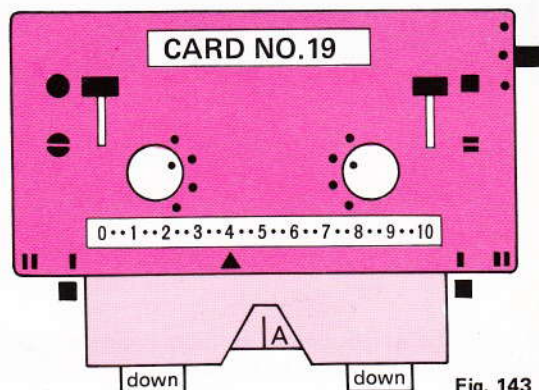

Fig. 143
- Set the carriage as in fig. 143. Push carriage from right to left. The needles are selected.